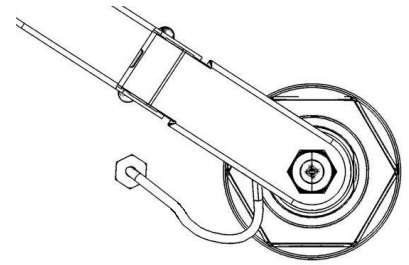

Figure 16
22. Hook up the washer hose to the bulkhead fitting. Leave enough hose so the arm will not pull it off or kink operation. (Figure 16)